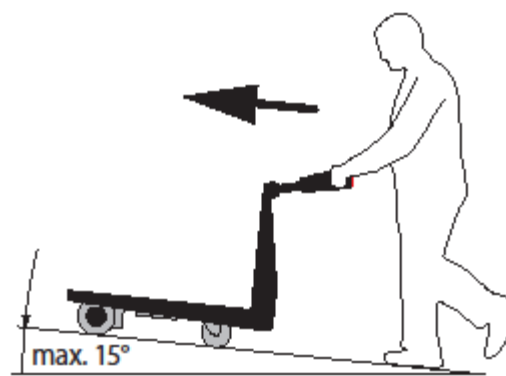

Fig.8
- If you need to transport uphill and the Movexx needs to carry out a slowing down function, you need to turn the combination and carry on in a push position (if there is a brake on the machine) (Fig 8) with the object to move in front of you.